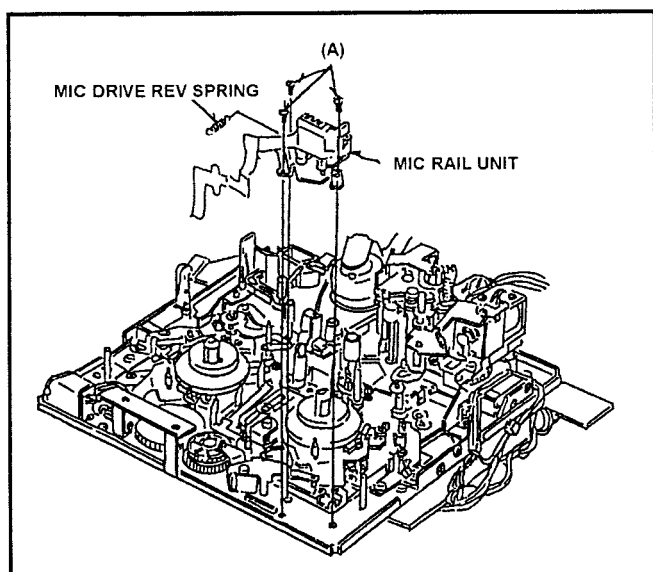

Fig. 6-12-1 Removal of MIC Rail Unit
6. Remove the MIC Drive Rev Spring at MIC Rail Unit side as shown in Figure 6-12-1.
7. Unscrew the 3 screws (A) and remove the MIC Rail Unit as shown in Figure 6-12-1.